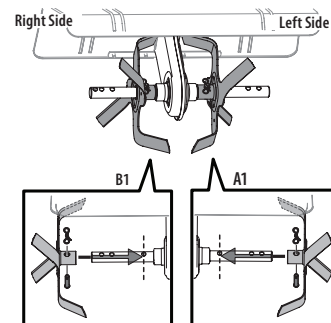

Figure 1
2. Use two clevis pins and two cotter pins from the manual bag. From the FRONT of the tiller install the inner LH tines (A1) onto the inner left side of the shaft. Install the inner RH tines (B1) onto the inner right side of the shaft. See Figure 1.